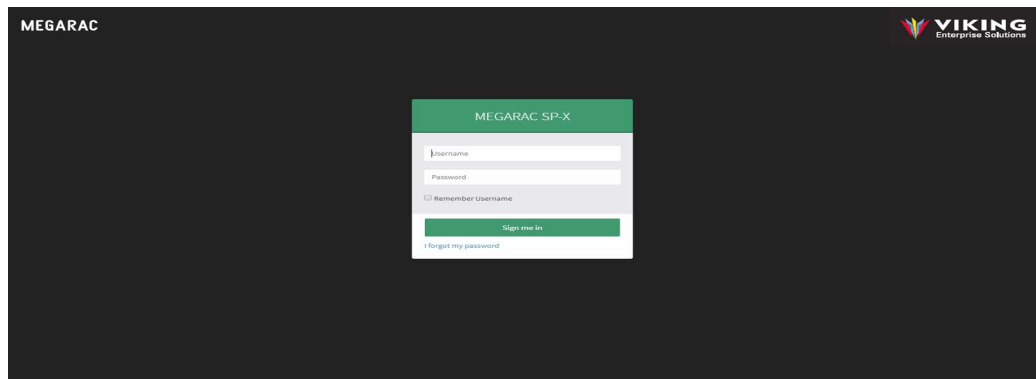

Figure 3.7 BMC WebUI login screen
2. The BMC WebUI login dialog box displays as shown in Figure 3.7 on page 40.